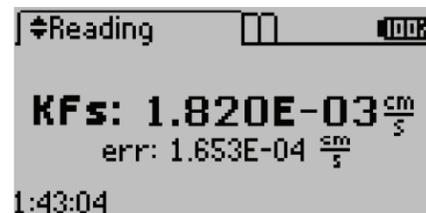

Figure 21 Results screen
- **Results Screen.** After a test is complete, the Results screen replaces the Status screen. It shows the resulting K_{fs} of the test (Figure 21). The error (err) value also appears on the Results screen. The err is the standard error of the K_{fs} reading and represents the amount of noise in the measurement. Press UP and DOWN to change Reading screens or press the POWER/MENU button to navigate to the Configuration tab. SATURO will display the results from the last test if no test is running.